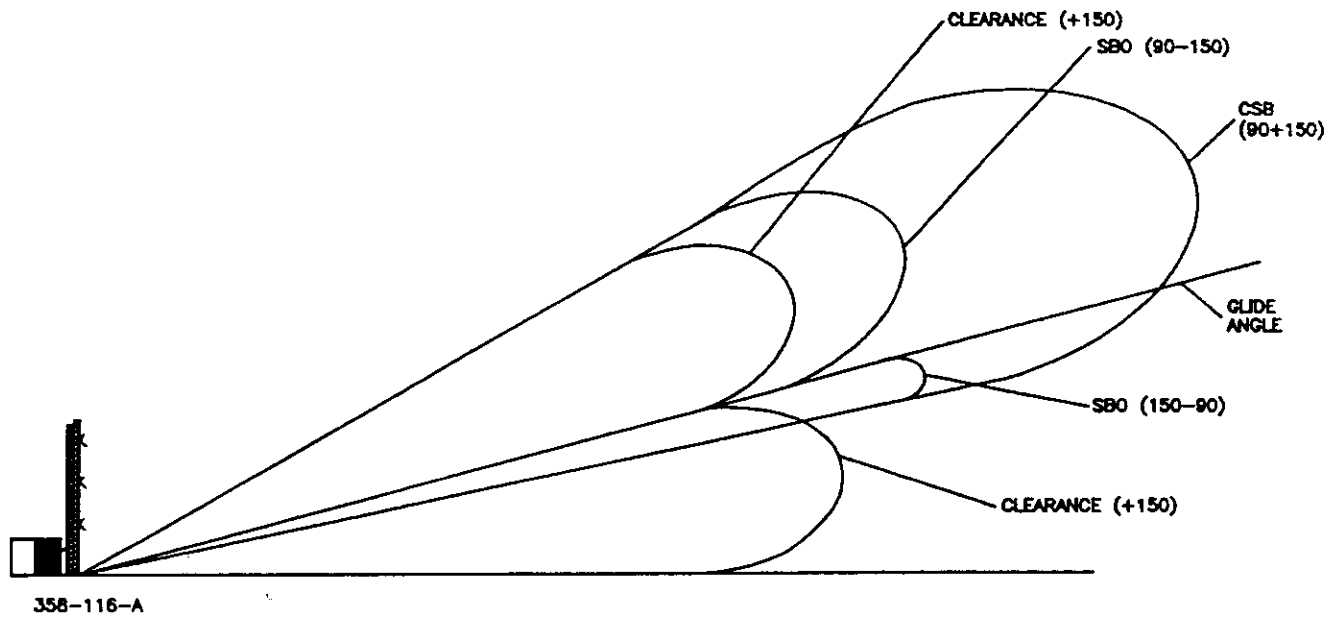
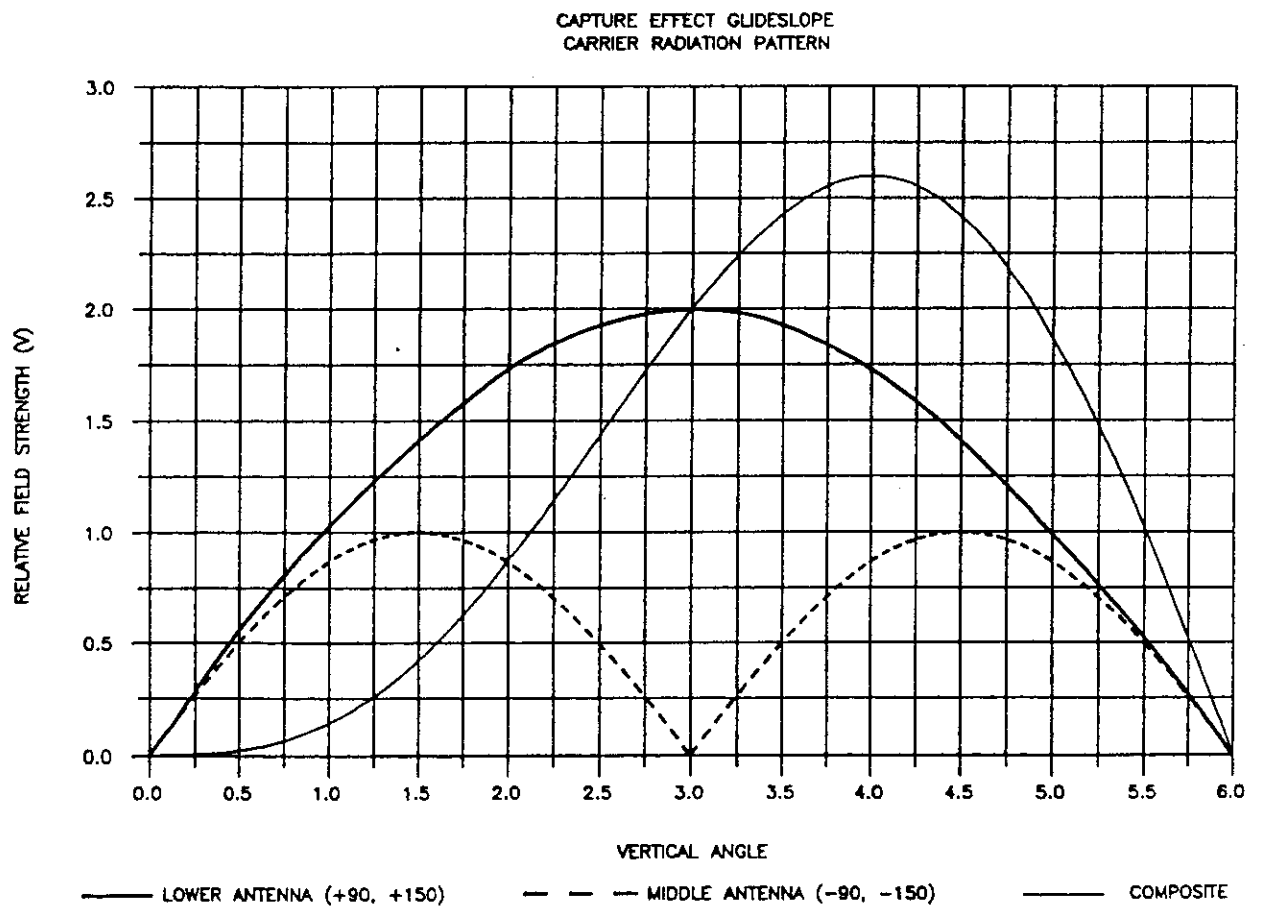
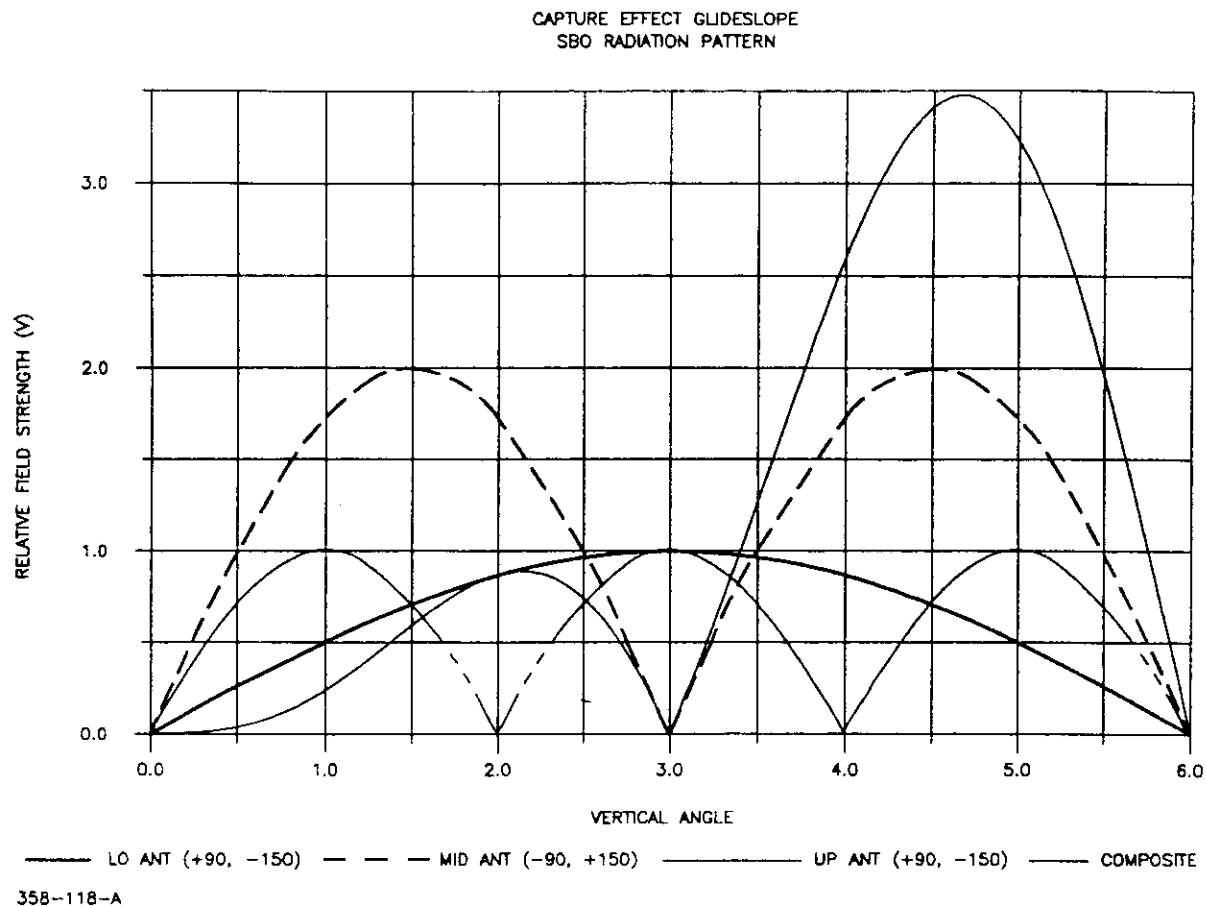

Figure 2-2. Glide Slope Antenna Radiation Pattern
Figure 2-3. Carrier Radiation Pattern
Figure 2-4. Sideband Radiation Pattern
2.2.2.2 Radiation Pattern.- Capture effect is the term used to describe the manner in which a linear receiver detector circuit responds to two rf signals of different frequencies and power levels, which are each within the passband of the receiver. If one signal is stronger than the other, the detector will discriminate against the weaker signal, resulting in a much greater ratio of the detected signals than the ratio of the input signals. See figure 2-2. Capture effect utilizes a scooped-out path-forming (primary) signal that minimizes the effects of reflections from obstructions in the approach area and an auxiliary clearance signal to ensure adequate clearance below path. The frequencies of the two signals are different, but both are within the passband of the aircraft receiver. The aircraft receiver captures the stronger primary signal in the flyable area of the glide path and the stronger clearance signal at small angles below path. The primary signal consists of modulated carrier signals fed to the lower and middle antennas and a sideband-only signal that is fed to all three antennas. Figure 2-3 shows the lobe structure for the carrier signals with a 4-to-1 power ratio. The middle antenna is fed a signal that is 180 degrees displaced from, and one-fourth the power of, the carrier signal fed to the lower antenna. Figure 2-4 shows the lobe structure of the sideband signals from each antenna and the composite lobe structure with a 4-to-1 power ratio. The sbo signal fed to the upper antenna and the sbo signal fed to the lower antenna are displaced approximately 180° from, and one-fourth the power of, the signal fed to the middle antenna. The clearance signal is formed by feeding modulated 150-Hz signals, having the same audio phase as the 150-Hz modulation of the primary carrier, to the upper and lower antennas. The composite clearance lobe has a broad null in the 2.5° to 3.5° area where the aircraft receiver captures the primary navigation signals. This is also a relatively strong signal in the area below the glide angle where the composite primary sideband energy is low. Figure 2-5 shows the clearance signal vertical lobe structure. Figure 2-6 shows the glide slope antenna horizontal radiation pattern. The clearance signal effectively fills the area between 0° and 2° where the receiver will capture the clearance signal. In the area from 2° to 6°, the primary signal is much stronger and the receiver will capture the primary signal to provide the necessary navigation signals.